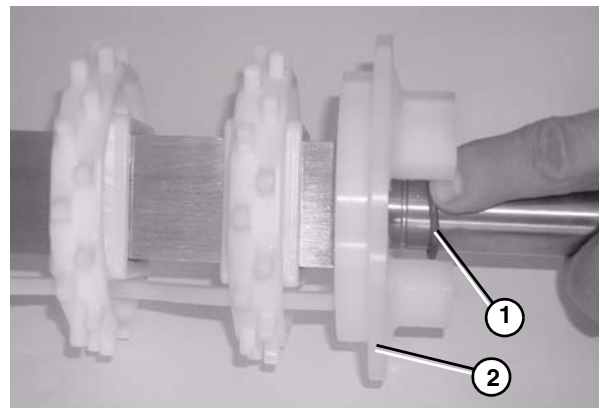

Figure 78
5. Install a flanged puck (**Figure 78, item 2**) onto spindle shaft. Install O-ring (**Figure 78, item 1**) onto spindle in groove provided.